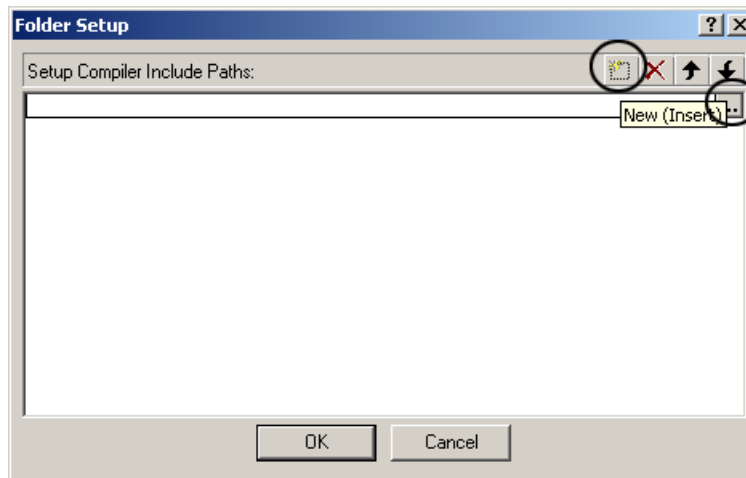

Figure 9. Selecting folders to include
12. By default no paths are included, so you need to include four paths for this project, from the “Folder setup” dialog. See Figure 9.